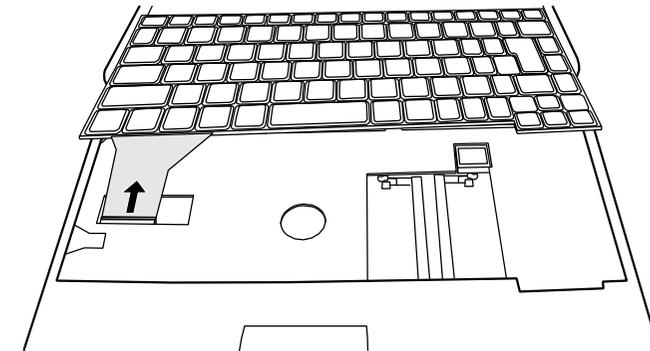

Figure 5-20. Removing the Keyboard
1. Reconnect the keyboard cable and fit the keyboard back into place. (Refer to Figure 5-20 earlier.)